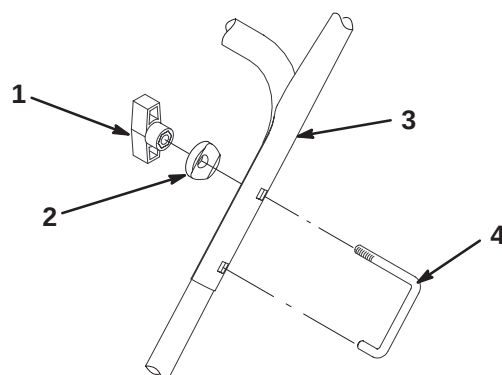

Figure 7
2. Loosen the knob and pull out the handle lock on the right side of the handle until the upper handle rotates freely (Fig. 7).
4. Loosely install the handle lock, curved washer, and knob on the left side of the handle as shown in Figure 7.